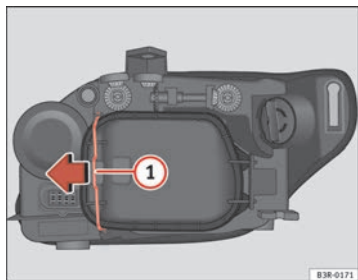

Fig. 210 Side light bulb (outside of vehicle)
- Move the brace ⇒ fig. 210 ① in the direction of the arrow and remove the rigid cover, separating the brace side and then removing the two tabs from the other end of the cover.